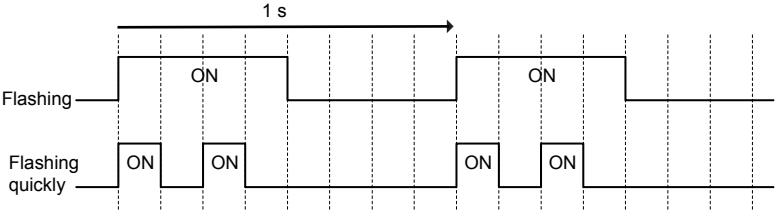

Figure 4.1 RUN LED Status and Meaning
- <1> Refer to Figure 4.1 for the difference between “flashing” and “flashing quickly”.